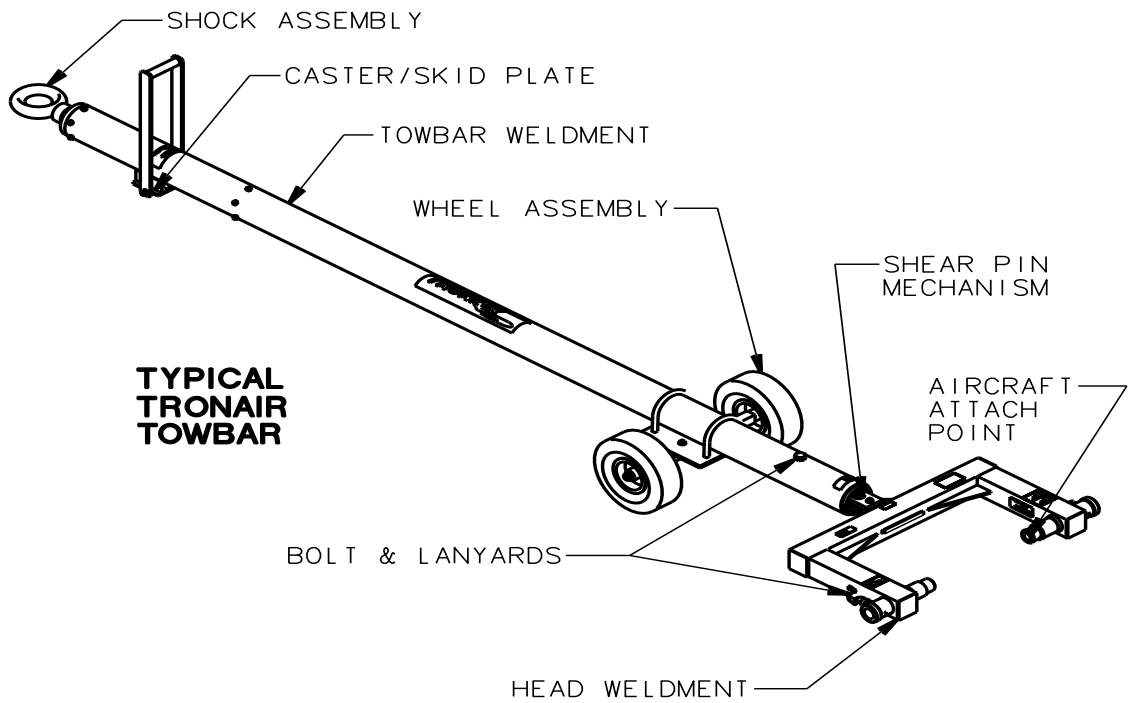

FIGURE 1
**BEFORE USING TOWBAR, COMPLETE THE FOLLOWING CHECKLISTS:**Reference **Figures 1 & 2** on Page 2.**TOWBAR:****Area of Towbar:**